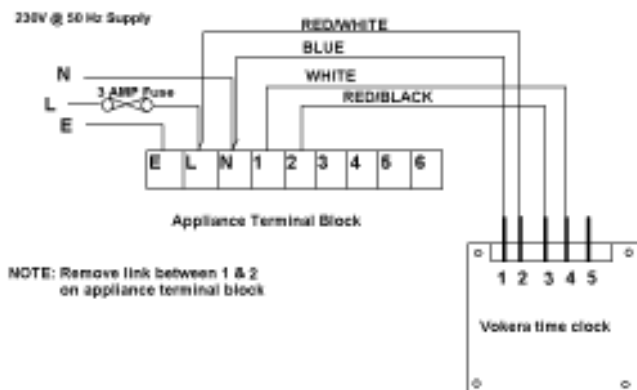

fig. 24
- Connect the wires to the clock as shown in fig.24.
- Connect the clock wires to the appliance terminal strip as shown in fig. 24